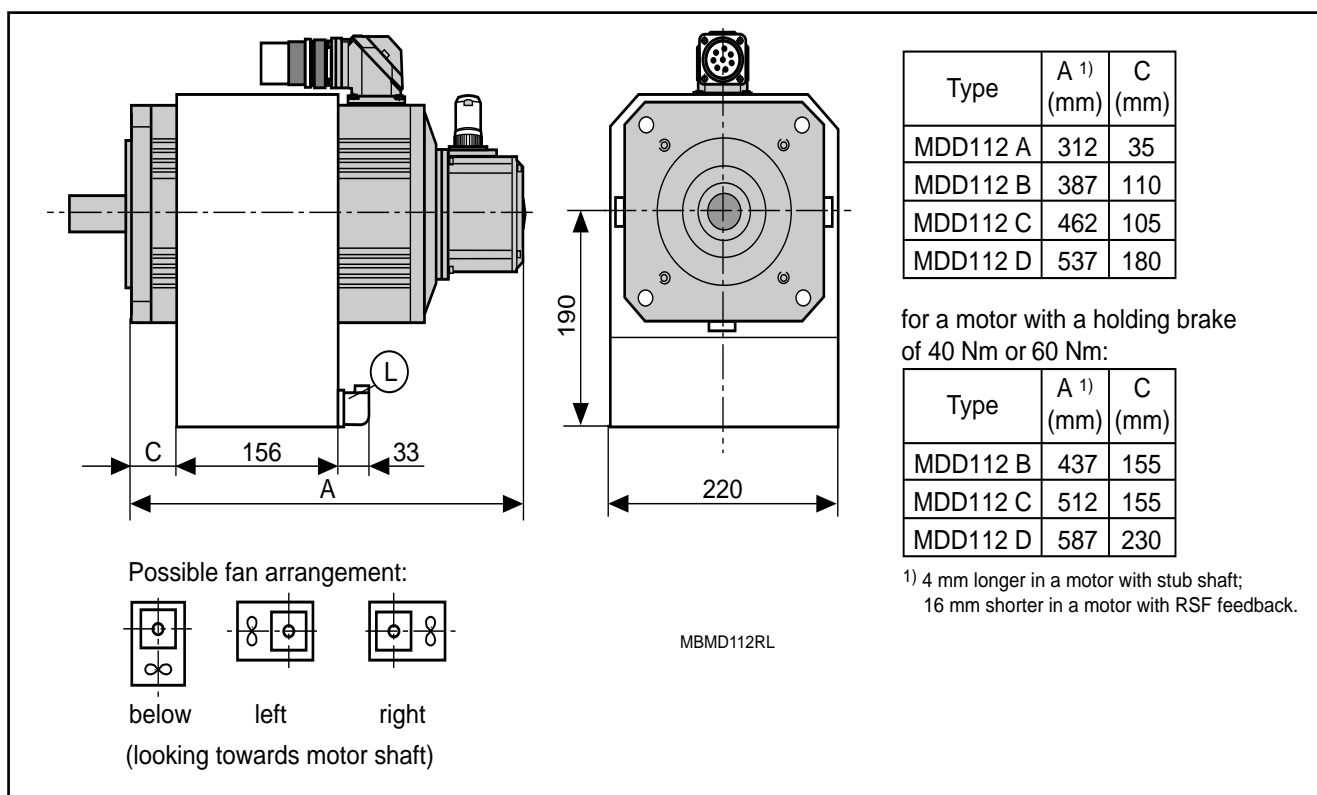

Figure 3.14: Dimensional data for an MDD112 with radial surface ventilation
4. Insert the bottom plate with fixing strip into the slot on side of the motor. Fix into position $C + 13$ mm. (See Figure 3.14 or 3.15 for position C.)